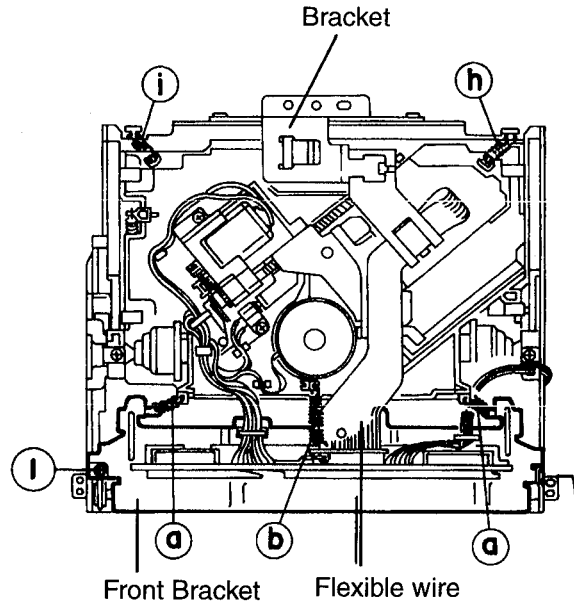
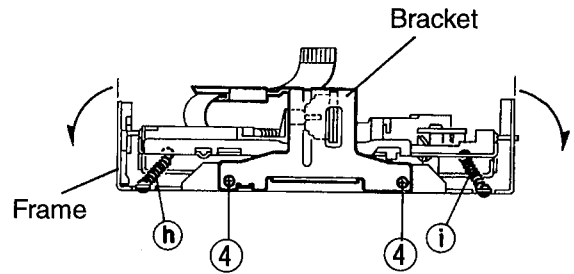
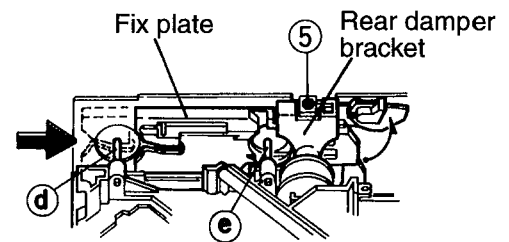
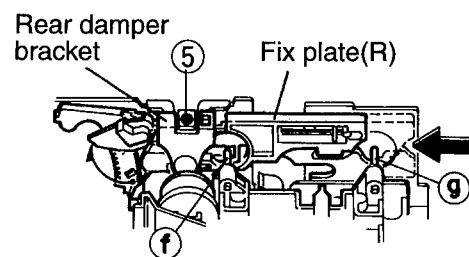

Fig.10
Fig. 16
Fig. 17
Fig. 18
2. Remove the three springs ① and ② from behind the CD mechanism assembly (See Fig. 10).
3. Disconnect the flexible wire connected to the connector on the CD mechanism control P.C.board (See Fig. 10).
6. Remove the two screws ① retaining the front bracket for fixing the CD mechanism control P. C. board (See Fig. 10 or 13).
1. Remove the two screws ④ retaining the bracket for fixing the damper (See Fig. 16)
2. When shining the fix plate on the right and left Sides respectively to the arrow direction, lower the entire CD mechanism. When the shafts (d, e, f and g) on both the right and left sides have been set free as shown in Fig. 17 and Fig. 18, then the assembly can be removed easily. Remove the two screws ⑤ retaining the rear damper bracket to make it easier to remove the damper from the rear damper bracket (See Fig. 10, Fig. 17 and Fig. 18).
3. Remove the two springs (h) and (i) as shown in Fig. 10 and Fig 16.